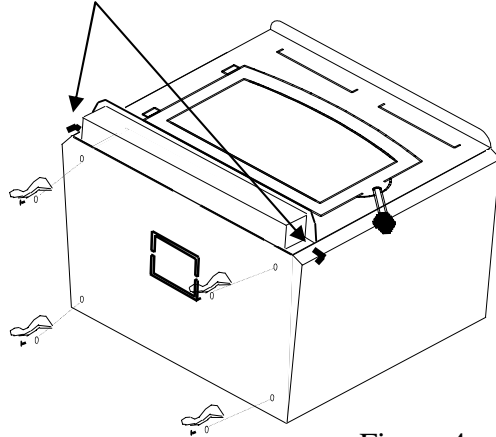

Figure 4
3. Check primary air draft control to ensure that it slides freely. (See Figure 4).
5. **(Leg Kit):** If legs are to be used, obtain four legs, attach legs to holes in bottom of unit with bolts and washers supplied with leg kit. (See Figure 4).